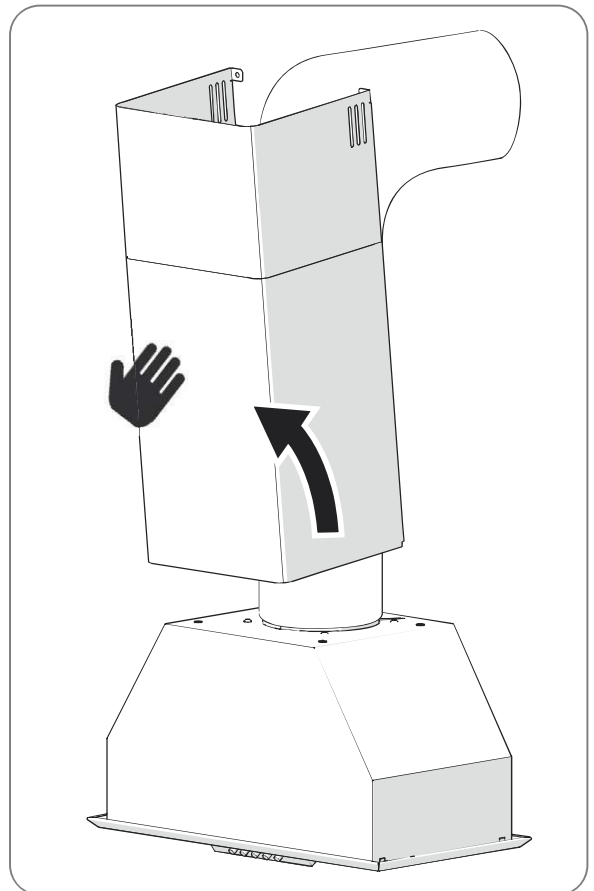

Fig. 4.2
- 11) - Refit the hood chimney cover (tightening the fixing screws, if present, see also Fig.4.2).